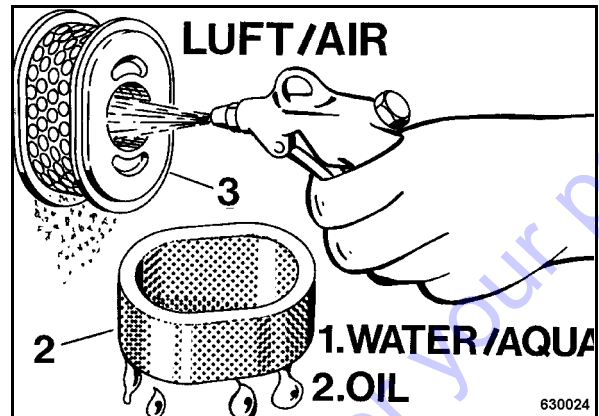

Fig. 49
- Blow the paper element (3) (Fig. 49) carefully out from inside to outside with dry, clean compressed air (do not exceed 29bar). In case of excessive contamination replace the paper element.
- Clean the foam insert (2) in warm soapy water, rinse it and let it dry thoroughly.